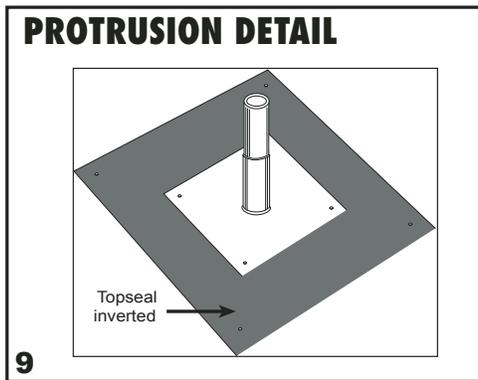

FIGURE 9
- **Roof Protrusions:** All roof protrusions such as soil pipes and vents should be addressed prior to installing rolled roofing over the roof deck. See Figure 9 and Roof Protrusion instructions.
- **Storage:** AC TopSeal® rolled roofing should be stored in an inside, dry, well-ventilated area. Stand rolls upright. Do not store at 90°F (32.2°C) or warmer for extended periods of time. Store on a hard, flat, level surface. Do not stack more than two (2) pallets high. If there is any sign of pallet damage or water intrusion to pallets or boxes, do not double stack.